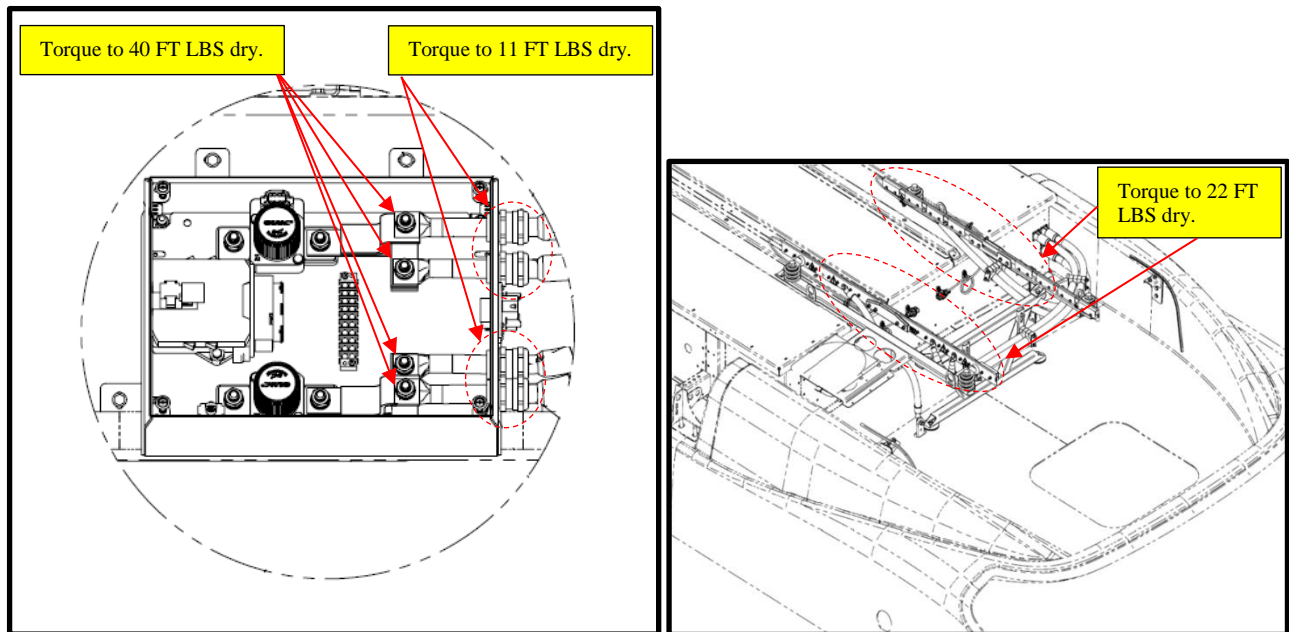

Figure 3: DC charge rail box connection location reference.
14. Connect the cables to the Charge rail box using the quick disconnect fittings or using the appropriate lug and gland nuts based on your application. Torque based on your application. See Figure 3.
15. Install the remaining end on the charge rail and torque. See Figure 3.
NOTE: Torque all the cable nuts, gland nuts and lug connection nuts. See Figure 3.